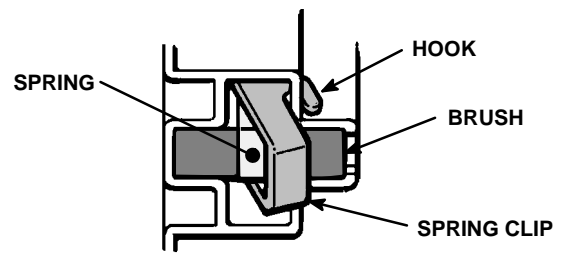

Fig 23-2
2. Push in the spring clip to release its hooks from the brush holder. Pull out the spring clip. See Fig 23-2.